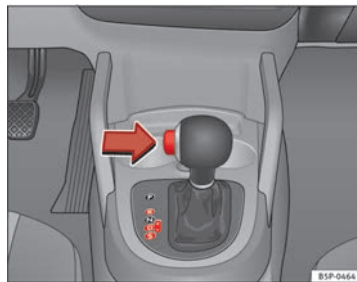

Fig. 145 Driving
- Press the button on the selector lever knob (on the left ⇒ fig. 145).